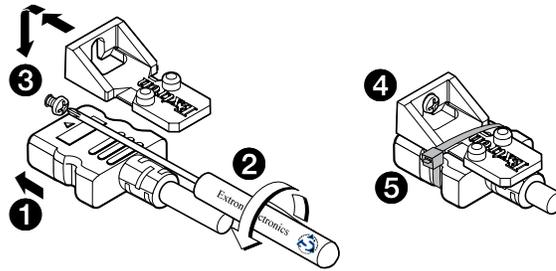

Figure 3. Installing the LockIt Lacing Bracket
1. Plug the rear panel HDMI cable into the panel connection (see figure 3, **1**).